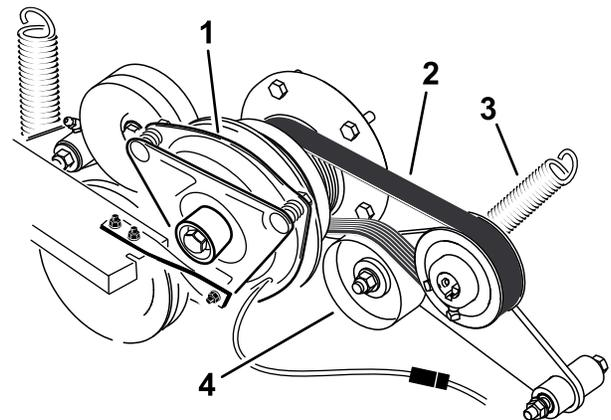

Figure 62
3. Remove the spring from the idler arm (Figure 62).
4. Install the new belt around the engine and hydro pump pulley (Figure 62).
6. Install the spring to the idler arm (Figure 62).